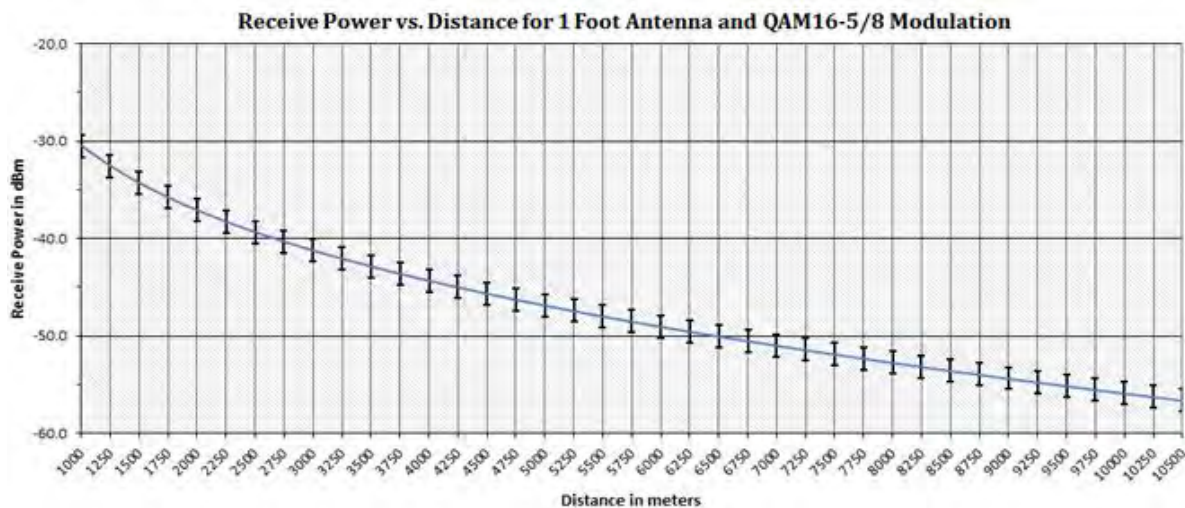

Figure 5-18: Typical AireLink 80 RSSI vs. Distance Charts for 1 foot antenna
17. When aligning the system, it is important to take a look at the Receive Signal Strength using either a voltmeter attached to the alignment voltage connector located at the side of the radio housing, or using the LightPointe BLE Tool and Observe the RSSI value shown in the radio submenu. The RSSI chart in Fig. 5-18 shows the RSSI signal voltage as a function of the deployment distance under ideal and clear weather conditions and with 1 foot antenna attached to the radio. Therefore, and when the system is installed under non-clear weather conditions, the values can be lower during the actual installation process. The RSSI values are slightly different for the low band and the high band radio and, in addition, the values vary slightly and within a few percent from one radio system to another due to manufacturing tolerances. However, the chart provides a very good indication of expected RSSI values as a function of deployment distance. RSSI chart for the 2 foot and 3 foot antenna can be found on pages 40/41. The overall goal of the alignment process is to align the system as close as possible to the RSSI value provided in the RSSI chart. The RSSI voltage reading in Volt corresponds to the RF RSSI signal reading in dBm. In other words, and with the correct polarity chosen, a system that is not aligned at all will show a negative voltage reading close to -0.80 Volt and this translates into a -80 dBm power reading. This signal level is far too low to establish a data connection. During the alignment process the voltage reading will increase, meaning “less negative” voltages or higher RF RSSI reading in dBm will be recorded. The goal is to align the system at its best possible and highest RSSI reading (e.g. increase the voltage reading. When using the *Lightpointe BLE Tool*, the RSSI reading is given in dBm directly.